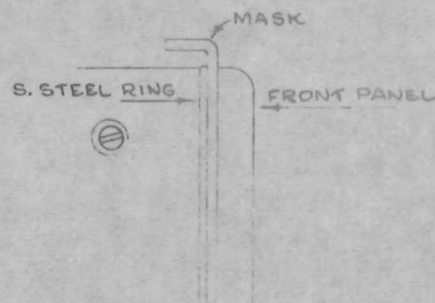

FIG. 4
- () 8. Position the instrument so that the stainless steel ring touches the mask all the way around the instrument (see Fig. 4).